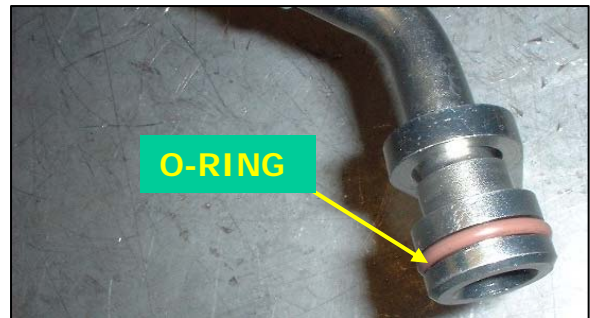

Fig. 31
34. Coat the supplied o-ring with new motor oil and carefully install it on the end of the new oil drain line. Ensure that it is not twisted or crooked in the ring groove. See figure 31.